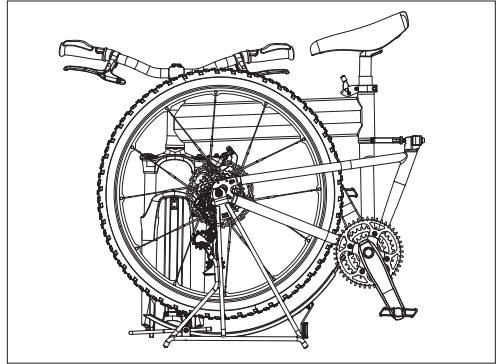

Fig. 44: Correct bike position with Rackstand.
2. Slide the fender tail to a length that will hold the folded bike with the seat tube perpendicular to the ground (Fig 44). The fender will need to be longer for a mountain bike than a pavement bike.